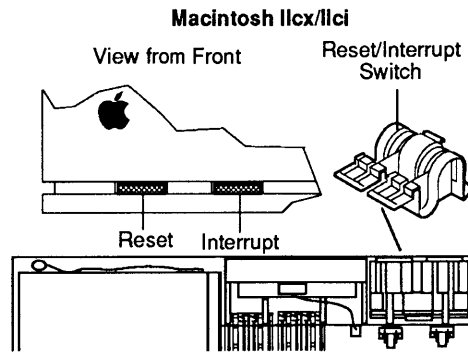

Figure 3-7 Reset/Interrupt Switches
7. Verify that the reset/interrupt switch (**Figure 3-7**) is installed. With the front of the UUT facing you, look at the lower-left corner where the two slots are, and see if the switch is installed (see **Figure 3-7**). If a switch is not installed, you must install one. Refer to Section 2, Take-Apart, for installation instructions.
The reset/interrupt switch has two switches—the reset switch and the interrupt switch (**Figure 3-7**). Pressing the reset switch is the same as switching the power off and back on. Pressing the interrupt switch places the UUT in interrupt mode.
4. Switch on the UUT. A four-tone chord (following the startup chord) indicates that you are in test mode. If you hear **only** the startup tone (a single chord), you are **not** in test mode. To obtain test mode, wait about four seconds for each megabyte of installed memory, and then press the interrupt switch (refer to **Figure 3-7**). When in test mode, the UUT can respond to information it receives through the modem port.